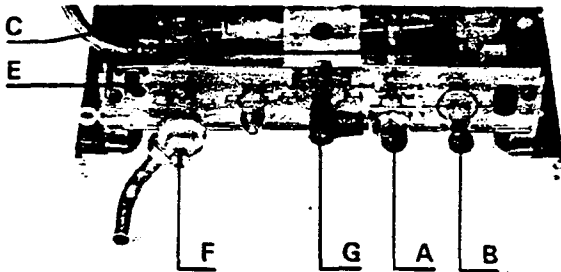

Fig. 34
- 1) Ensure that the isolating valves are open (fig. 34 B and C). **N.B. Valve (C) must be turned anti-clockwise by the knurled shaft until it dislocates from the thread and then pulled out horizontally to its extremity (approximately 30 mm (1 1/4 ins)).**
- 4) Vent air separator by loosening screw (fig. 34) (E) and purging until no air is apparent **N.B.:** ensure screw E is tightened.
- 2) Turn the lever on the gas service tap (fig. 34) (G) to the left. In the open position the flame sign is to the front.
- 4) Switch to **HOT WATER + CENTRAL HEATING (II)** on the selector switch (A). The fan will run at low speed.
- 5) Press the ignition button (R) and hold in.